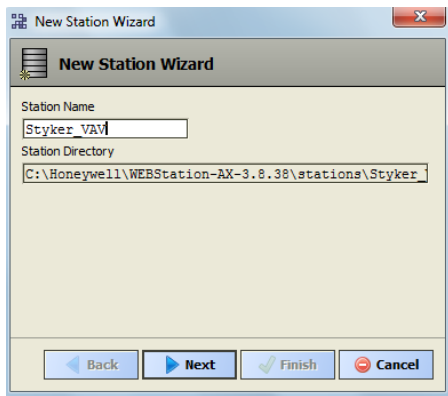

Figure 12: New station Wizard Window
- After clicking 'New Station', it opens 'New Station Wizard' window. (Refer to Figure 12)